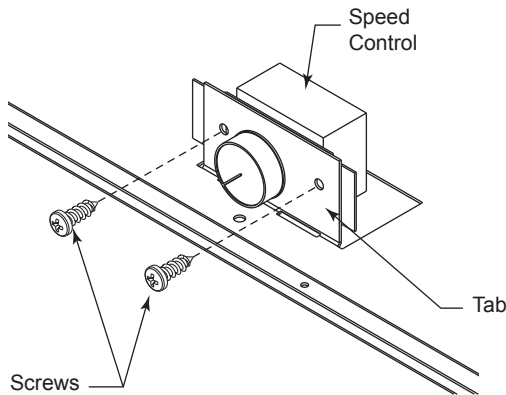

Figure 7.
**Note:** for CFDV, remove the preinstalled sensor clip. Attach the sensor clip to the Z bracket with #8 screw. See Figure 7. Rest the Z bracket on top of the firebox and align the hole of the bracket with the preinstalled sensor clip hole and attach with #8 screw.